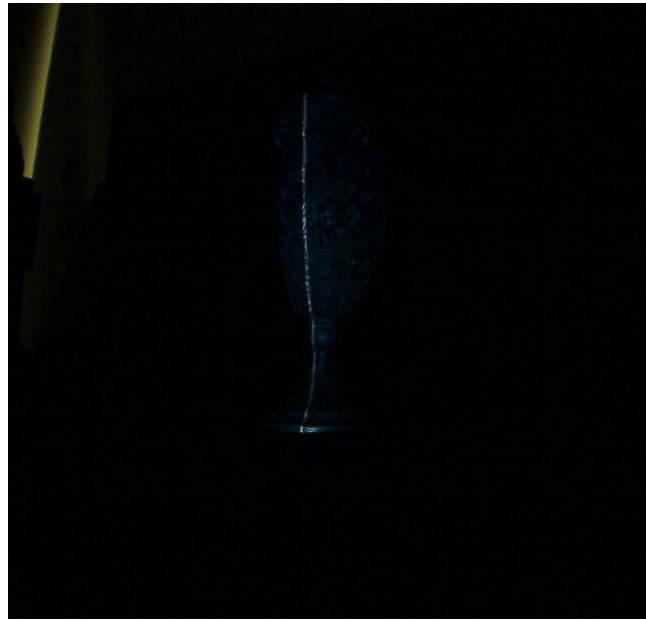

Figure 4: An example scanning image.
1. Use GUVCView to change the camera settings. Uncheck White Balance and Auto Focus, set Exposure to manual. Tune the exposure so that the scanline on your object is visible and everything else is dark. Tune the parameters until you get a clean scanline similar to Figure 4.